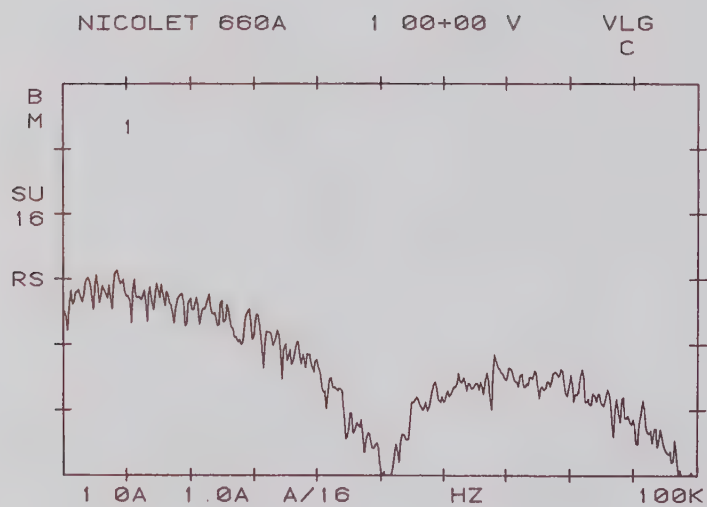

FIGURE T-4
- e. Place a 2 in LINE #2: As in b (above) depress: CALCULATION CONTROL 2. See Figure T-4.